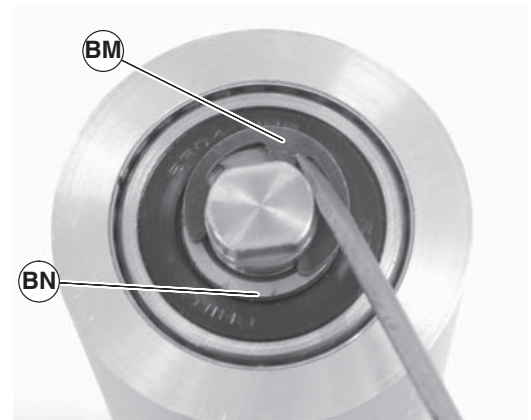

Figure 83
5. Remove the pulley shaft assembly: remove the clip ring (Figure 83, item BM) and washer (BN) from one side of the pulley assembly.